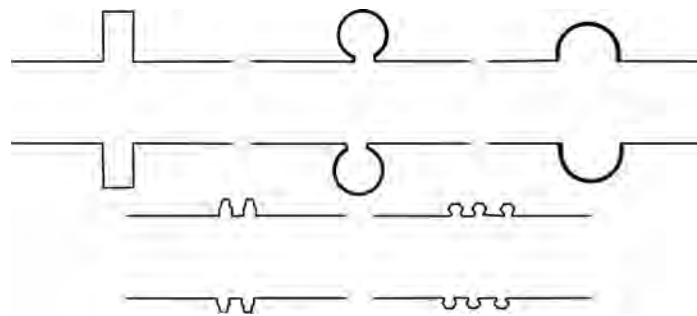

FIGURE 10.11 Different types of expansion joints.
- Figure 10.11 illustrates some typical expansion joints used in heat exchangers.